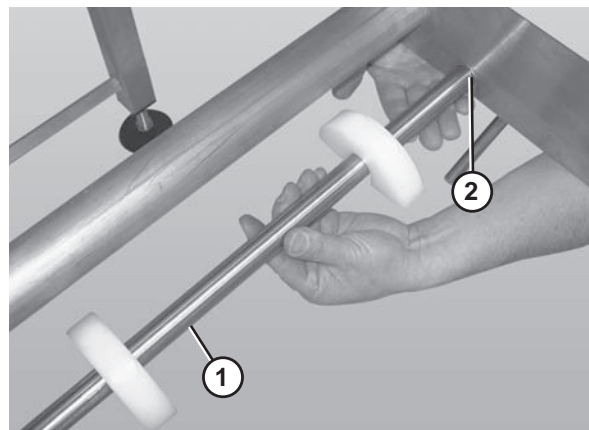

Figure 44
2. Slide the return shaft up (Figure 44, item 1) and through the large slot (Figure 44, item 2) in the frame (picture shown without the belt or wear strips).
3. Push up on the return shaft (Figure 44, item 1) and slide the notched end of the shaft through the small slot on the opposite side of the frame.